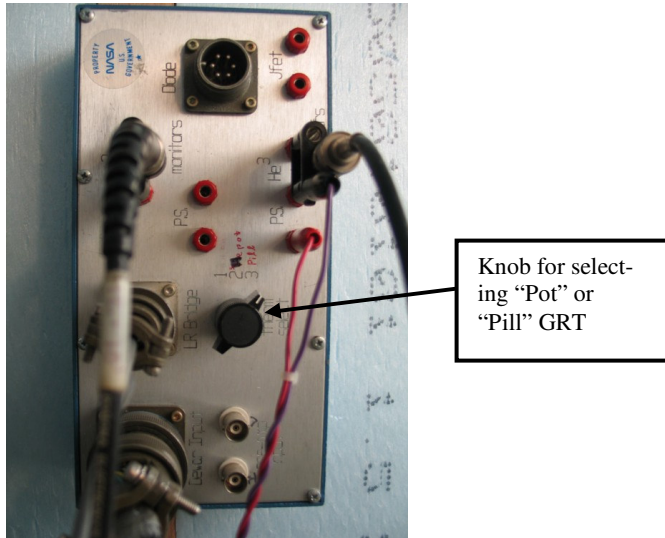

Figure 9: Selecting Pill & Pot GRT's on the Small Blue Box (56)
1. Plug the housekeeping cable (27) into the ADR. This is the large black braided cable with the military style connector. It plugs into the bottom-right underside of the end of the ADR near the double pillbox doors. The connector is *not* a bayonet-style or screw-on. Rather, just push it straight in snugly.
2. Next, locate the small blue box (56) on the inner right-hand wall of the enclosure on the Fabry side of SPIFI. A knob to select which GRT you wish to read is located on the box. Select either position "3: Pill" or position "2: Pot." See Figure 9 below.